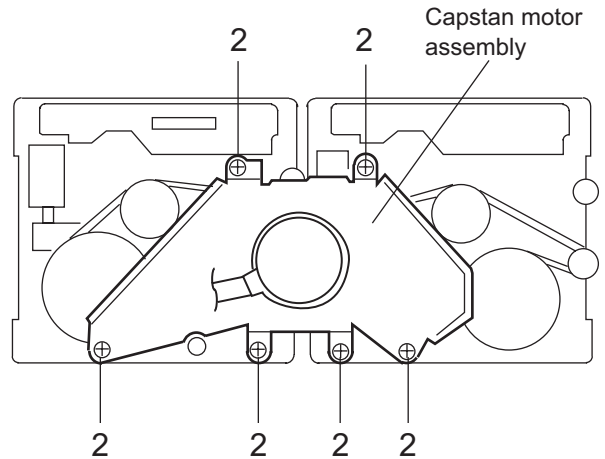
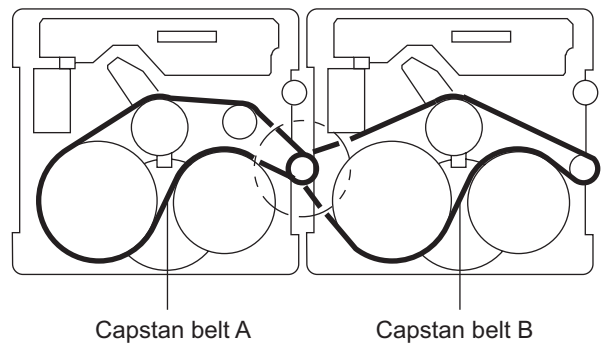
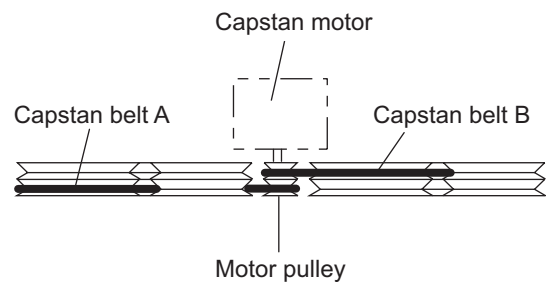

Fig.8
Fig.9
Fig.10
3.4.4 Removing the capstan motor assembly (See Fig. 8 to Fig. 10)
Be sure handle the capstan belt so carefully that this belt will not be stained by grease and other foreign matter. Moreover, this belt should be hanged while referring to the capstan belt handling method in Fig. 9 and Fig. 10.